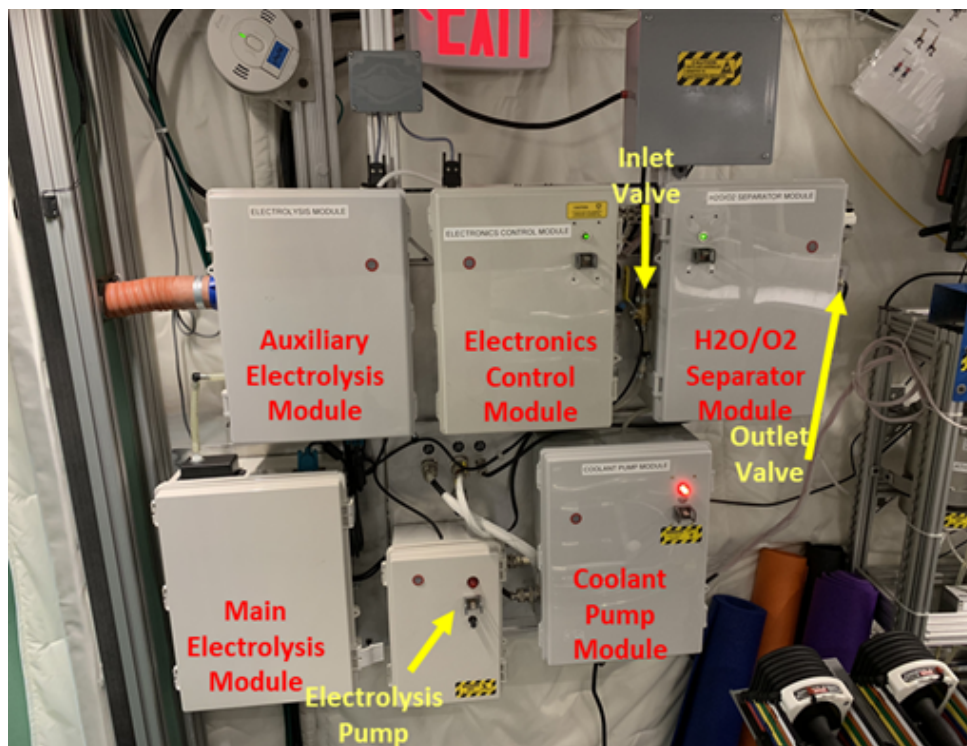

Figure 1: Solid Polymer Electrolysis System
- 1.3 Gather portable anemometer and take reading of exhaust flow to the right of the H₂O/O₂ Separator Module (see Figure 1). Set anemometer to M/s and hold anemometer within an inch of the outlet valve, left of center, for 10 seconds to gather an accurate reading.
- 1.6 Switch inlet valve located to the left of the H₂O/O₂ Separator Module to “CLOSED”. (see Figure 1).
- 1.7 Switch outlet valve located to the right of the H₂O/O₂ Separator Module to “CLOSED”. (see Figure 1).
- 1.8 Flip power switch of Electrolysis Pump Module to “OFF”. (see Figure 1).